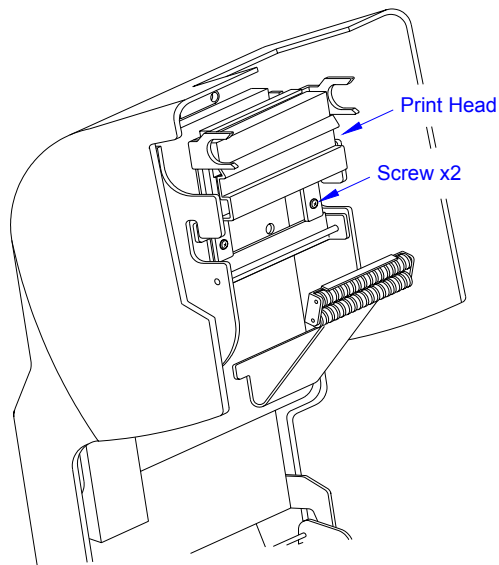

Figure 6-2, Print Head Alignment
NOTE: The ground and positive probes of the multimeter may also be connected to the Test Module by inserting the probes into their respective connection ports (6) arranged vertically along the right front side of the Test Module. If this method is used, the dial should be set at (0) zero. Refer to Figure 6-2 for connection port identification.
NOTE: Refer to Figure 6-2 for the correct Test Module position.